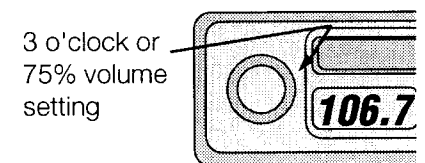

Figure 9: Head Unit
2. Adjust the **Volume** control on your head unit (CD, Cassette, etc.) to 75% of maximum volume. (See Figure 9).